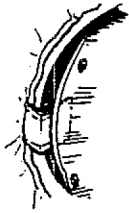

figure 14
- 2.12 Look to see if your vehicle has an uncountoured wheel well liner that overlaps the fender's sheetmetal as shown in figure 14. If so, the felt covered hooks that attach into your vehicle's wheel well must be bent into an L shape and inserted between the fender sheet-metal and the liner so that the hook's crease rests against the sheetmetal of the fender/wheel well (figure 14). During the first installation you may need the included black plastic shim/slat to create enough space to get the hook started as it slides into position.